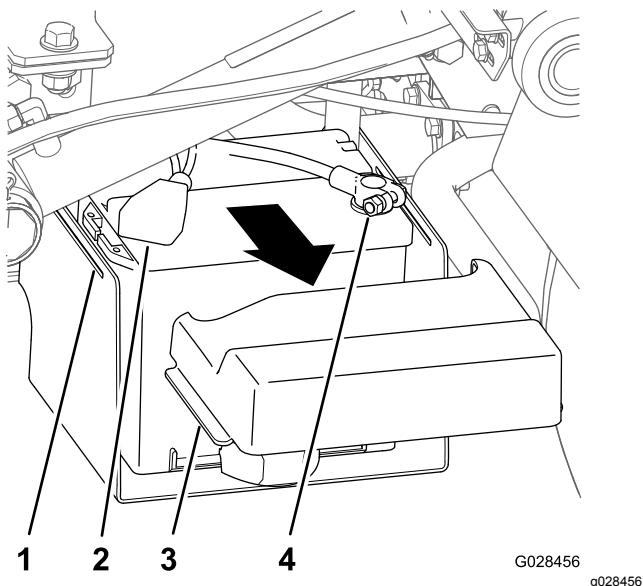

Figure 15
1. Squeeze the sides of the battery cover to release the tabs from the slots in the battery base, and remove the battery cover from the battery base (Figure 15).
- Slide the cover back and remove the negative battery terminal from the battery (Figure 15).
- Remove the positive battery terminal from the battery (Figure 15).